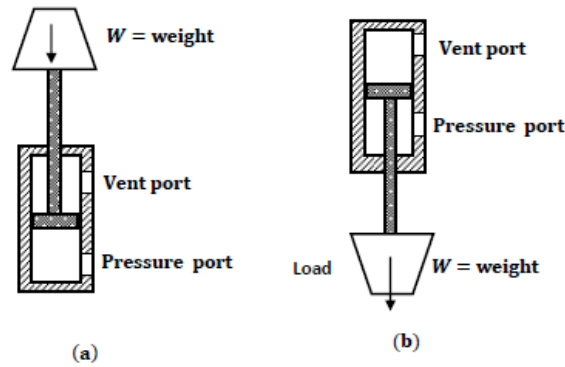

Fig.3.12 - Gravity-return single-acting cylinder: (a) Push type; (b) pull type
- Figure 3.12 shows gravity-return-type single-acting cylinders. In the push type [Fig. 3.12 (a)], the cylinder extends to lift a weight against the force of gravity by applying oil pressure at the blank end.
- ▶ To retract the cylinder, the pressure is simply removed from the piston by connecting the pressure port to the tank. This allows the weight of the load to push the fluid out of the cylinder back to the tank. In the pull-type gravity-return-type single-acting cylinder, the cylinder [Fig.3.12 (b)] lifts the weight by retracting.